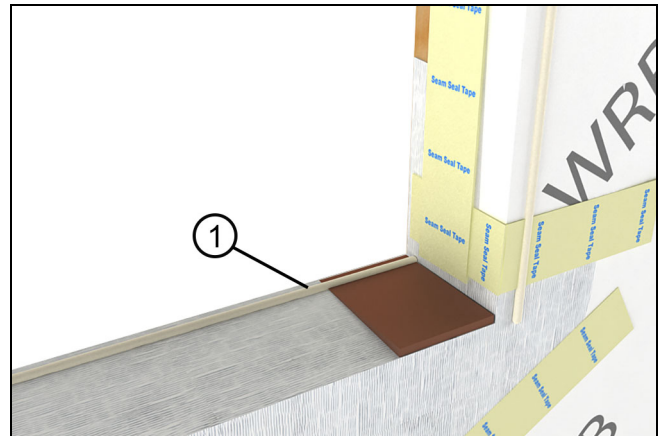

Figure 7
3. Place a bead of sealant 1/4"- 3/8" from interior edge of the RO sill. See Figure 7.